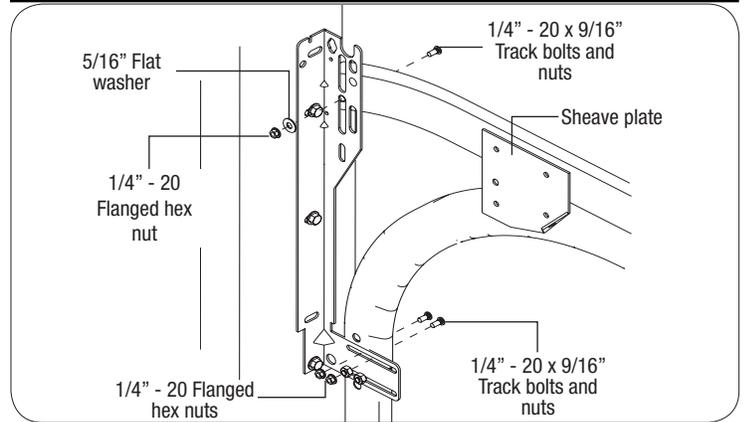

FIG. 6.1
Place (1) 1/4-20 x 9/16" track bolt through the slot in the end of the top curve and the appropriate slot in the flagangle, then secure with a 5/16" flat washer and flanged hex nut (do not fully tighten). Level the horizontal track, then tighten the bolt in the top curve, as shown in FIG. 6.1.